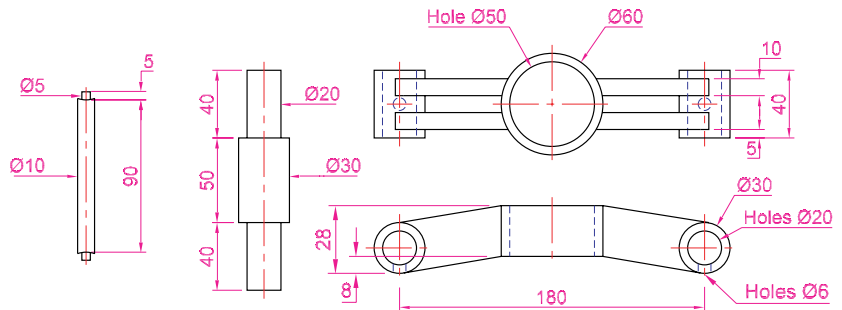

Fig. 19.1 Example – **Raster image in a drawing** – details
This example shows the raster file **12.bmp** of the 3D model constructed to the details given in the drawing in Fig. 19.1.
1. Construct the 3D model to the shapes and sizes given in Fig. 19.1 working in four layers each of a different colour.